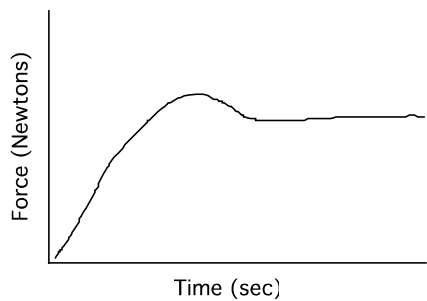

figure 6-2
4. With plane in the horizontal position, place 500 grams on the block and pull the block across the plane at a constant speed with the force probe. Be sure to pull horizontally. Note the "bump" at the start of the graph. This peak represents a maximum force which can be used to calculate μ_s . See fig 6-2 below and theory section.